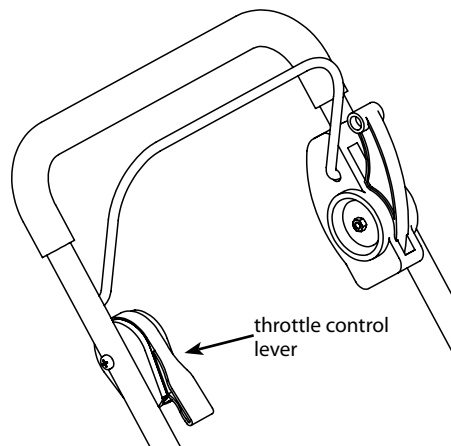

Figure 6: Using the throttle control
1. During normal use, set the throttle control lever in the FAST position to run the engine at full speed. **SEE FIGURE 6.**